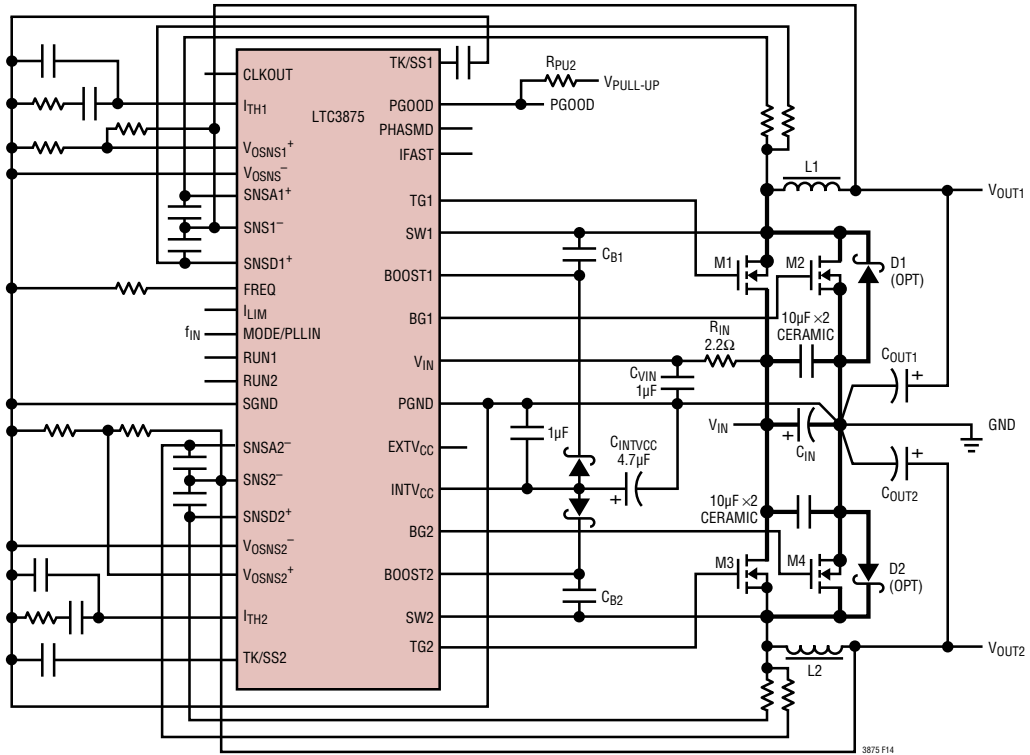
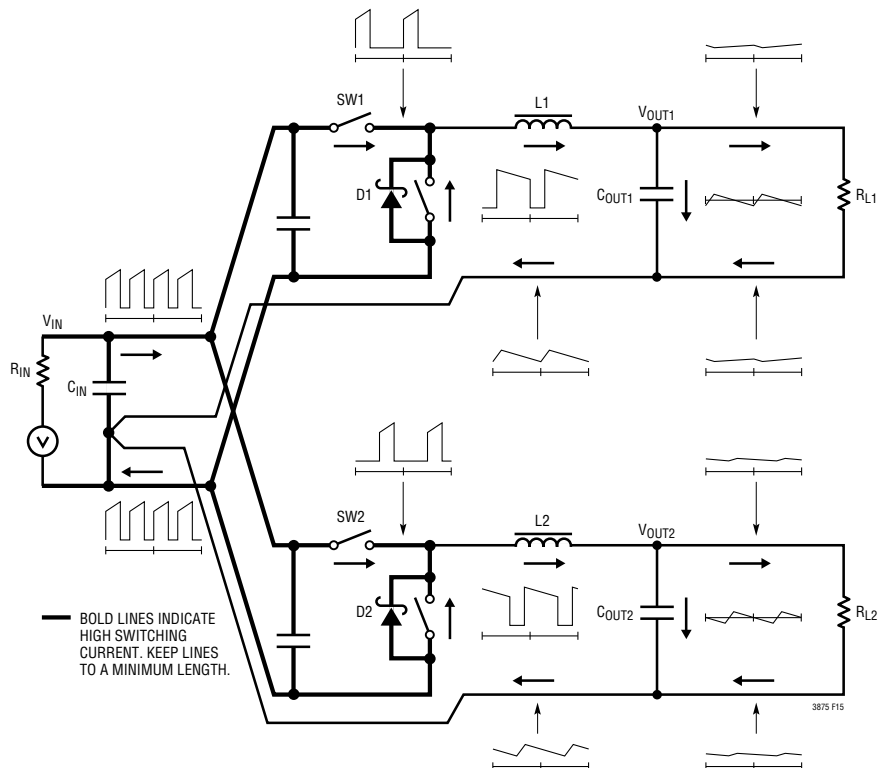

Figure 14. Recommended Printed Circuit Layout Diagram
Figure 15. Branch Current Waveforms
When laying out the printed circuit board, the following checklist should be used to ensure proper operation of the IC. These items are also illustrated graphically in the layout diagram of Figure 14. Figure 15 illustrates the current waveforms present in the various branches of the 2-phase synchronous regulators operating in the continuous mode. Check the following in your layout:
9. The 47pF to 330pF ceramic capacitor between the ITH pin and signal ground should be placed as close as possible to the IC. Figure 15 illustrates all branch currents in a switching regulator. It becomes very clear after studying the current waveforms why it is critical to keep the high switching current paths to a small physical size. High electric and magnetic fields will radiate from these loops just as radio stations transmit signals. The output capacitor ground should return to the negative terminal of the input capacitor and not share a common ground path with any switched current paths. The left half of the circuit gives rise to the noise generated by a switching regulator. The ground terminations of the synchronous MOSFET and Schottky diode should return to the bottom plate(s) of the input capacitor(s) with a short isolated PC trace since very high switched currents are present. External OPTI-LOOP[®] compensation allows overcompensation for PC layouts which are not optimized but this is not the recommended design procedure.